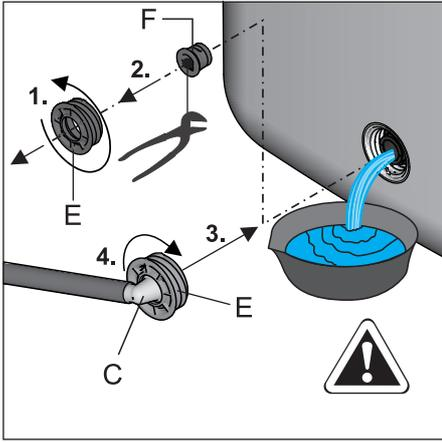

Fig. 6-3 Screwing pre-assembled connector into the filling and draining connection
- Unscrew the threaded piece (fig. 6-3, item E) at the filling and draining connection, and remove the plug (fig. 6-3, item F) **and immediately screw in** the pre-assembled hose connector (fig. 6-1, item C) into the filling and draining connection (fig. 6-3) again.